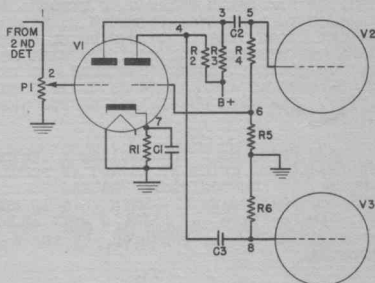

Figure 4.8 - 1st AF Section (Resistance Coupled Phase Inversion)
4.8 1ST AF SECTION (RESISTANCE COUPLED PHASE INVERSION) - Figure 4.8